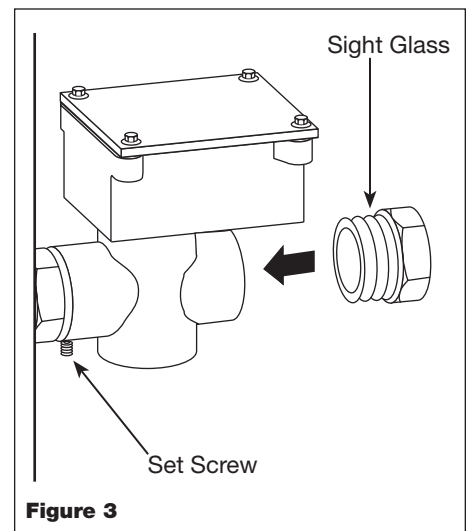

Figure 3
6. Tighten set screw in housing until snug and then re-install oil level sight glass on the front of the housing (See Figure 3).